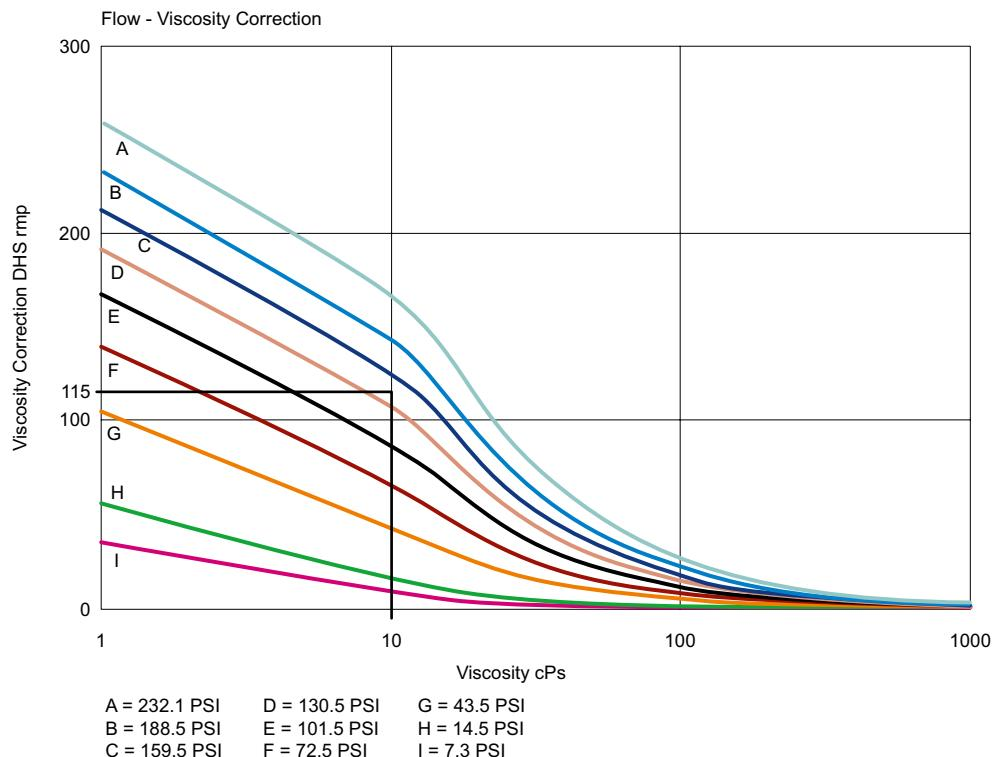

Fig. 7.6.3h
- Using the Flow-Viscosity Correction curve (Fig. 7.6.3h), draw a straight line up from the 10 cPs viscosity point on the x-axis until it intersects the (130 PSI) pressure line